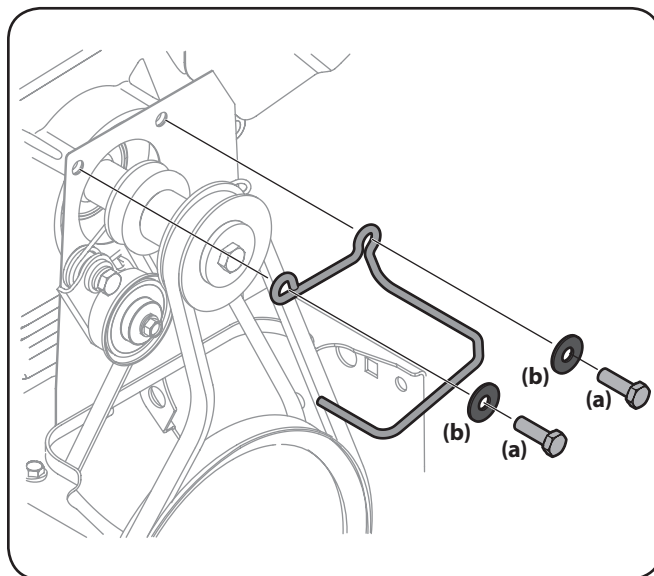

Figure 7-3
3. Loosen and remove the two bolts (a) and flat washers (b) securing the belt guide. See Figure 7-3. Remove belt guide.